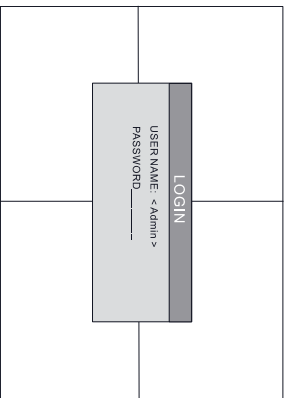

Fig3.1 Login
**STEP1** Press "Menu" button and input username and password (referred Fig3.1 Login), you will see the Main Menu